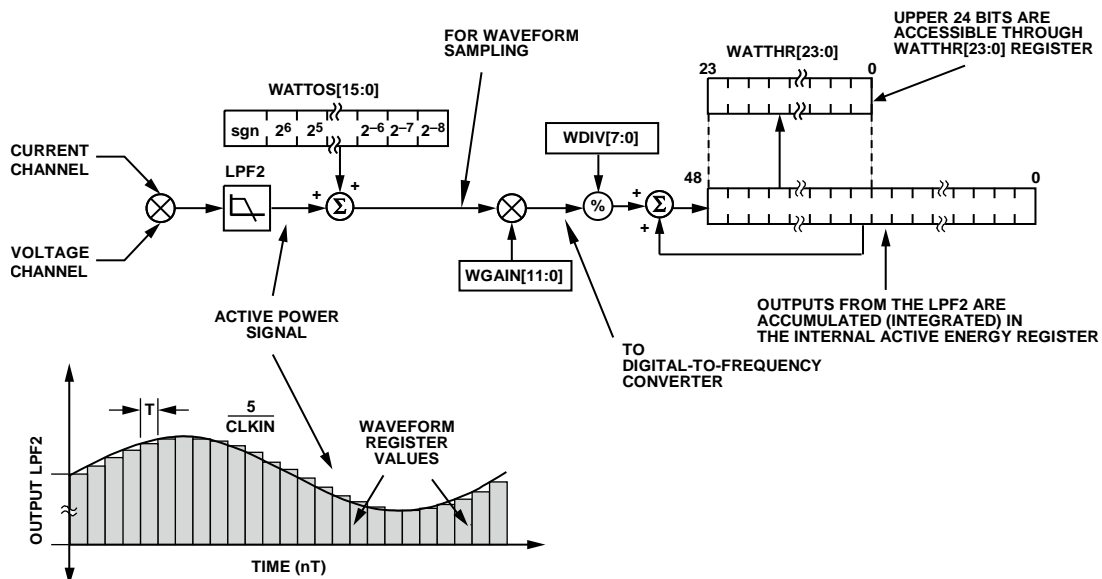

Figure 66. Active Energy Calculation
Figure 66 shows the signal processing chain for the active power calculation in the ADE7116/ADE7166/ADE7169/ADE7566/ADE7569. The active power is calculated by filtering the output of the multiplier with a low-pass filter. Note that, when reading the waveform samples from the output of LPF2, the gain of the active energy can be adjusted by using the multiplier and watt gain register (WGAIN[11:0], Address 0x1D). The gain is adjusted by writing a two's complement 12-bit word to the watt gain register. Equation 12 shows how the gain adjustment is related to the contents of the watt gain register.
The discrete time sample period (T) for the accumulation register in the ADE7116/ADE7166/ADE7169/ADE7566/ADE7569 is 1.22 μ s ($5/\text{MCLK}$). In addition to calculating the energy, this integration removes any sinusoidal components that may be in the active power signal. Figure 66 shows this discrete time integration or accumulation. The active power signal in the waveform register is continuously added to the internal active energy register.
The output of the multiplier is divided by the value in the WDIV register (Address 0x24). If the value in the WDIV register is equal to 0, the internal active energy register is divided by 1. WDIV is an 8-bit, unsigned register. After dividing by WDIV, the active energy is accumulated in a 49-bit internal energy accumulation register. The upper 24 bits of this register are accessible through a read to the active energy register (WATTHR[23:0], Address 0x01). A read to the RWATTHR register (Address 0x02) returns the contents of the WATTHR register, and the upper 24 bits of the internal register are cleared. As shown in Figure 66, the active power signal is accumulated in an internal 49-bit signed register. The active power signal can be read from the waveform register by setting the WAVMODE register (Address 0x0D) and setting the WFSM bit (Bit 5) in the Interrupt Enable 3 SFR (MIRQENH, Address 0xDB). Like the current and voltage channels waveform sampling modes, the waveform data is available at sample rates of 25.6 kSPS, 12.8 kSPS, 6.4 kSPS, and 3.2 kSPS.